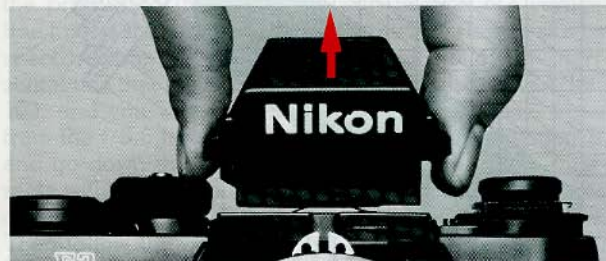

Fig. 2
In addition to the DE-2 Eye-Level Finder, the F3 accepts various other interchangeable viewfinders. To remove the finder, slide the finder release levers (31) with your thumb and finger towards the back of the camera (Fig. 1), and lift the finder out (Fig. 2). The DX-1 AF Finder provides an electronic focus-aid indication as you manually rotate the lens to obtain correct focus. The DE-3 High-Eyepoint Viewfinder allows you to see the entire frame from up to approx. 25mm away from the eyepiece. The DW-3 Waist-Level Finder is ideal when you want to use the camera at a low angle or upside down over your head for shooting over crowds. The DA-2 Action Finder works well for those situations when you can't bring your eye close to the finder, such as when you are wearing a helmet or goggles or when the camera is enclosed in a waterproof underwater housing. The DW-4 6X Magnification Finder is for critical high-magnification close-up work or photomicrography. Regardless of which finder is attached, you still have full automatic exposure control because the meter is built not into the finder but the body.